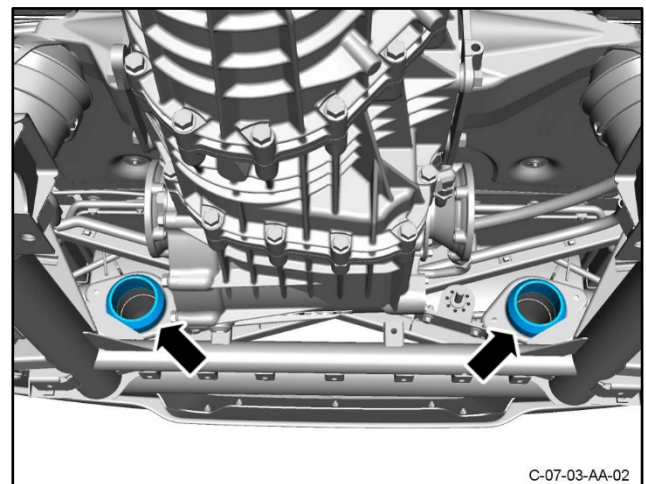

Figure 10
18. Remove and discard the two sealing rings (refer to Figure 10).